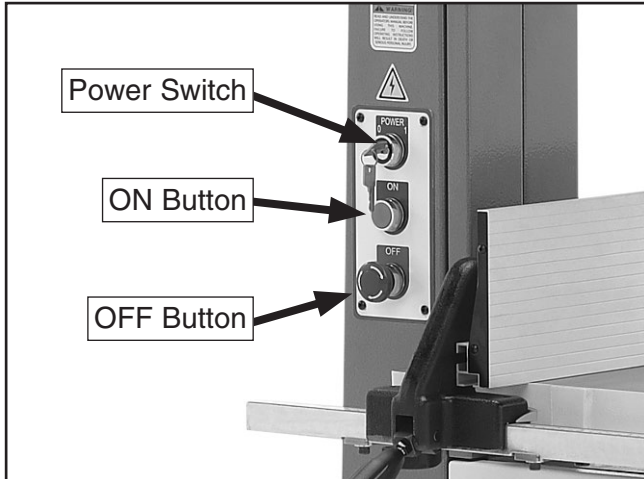

Figure 41. G0513X2B and G0513X2BF control panel.
- a. Insert the key into the power switch (see **Figure 41**), then turn it to the "1".